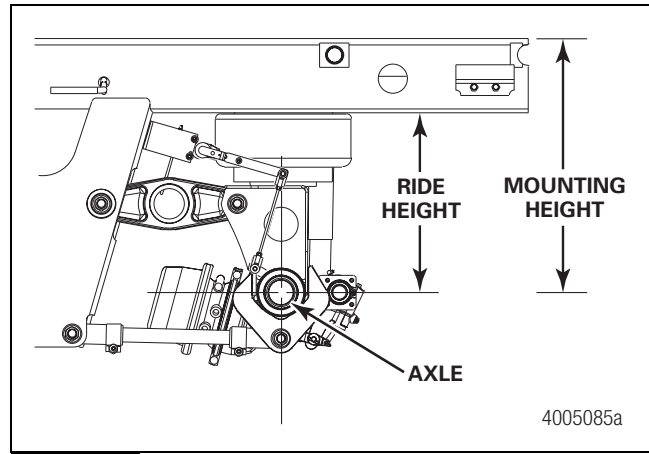

Figure 10
25. Determine the correct suspension ride height. Refer to the trailer manufacturer's specifications. The upper control arm must be at the correct ride height before applying the required torque to all upper pivot bolts. Figure 10.